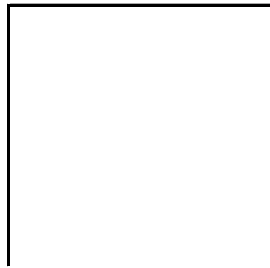

Figure 8-1 Thermal Paper Edge
① Installing the thermal paper
- Cut the edge of the paper finely with scissors, a cutter knife, etc. It is recommended that the edge of the thermal paper be cut in the shape shown in Figure 8-1.